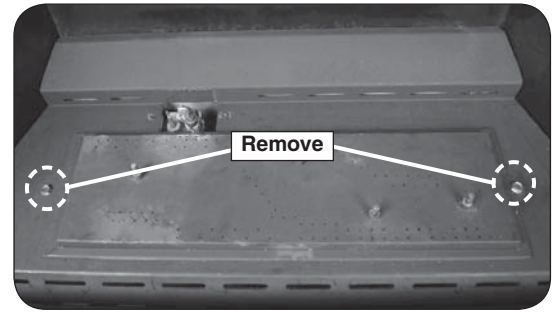

Fig. 48-1 Remove burner screws
4. Remove the two screws found on the burner using a $\frac{5}{16}$ " nut driver (see Fig. 48-1).